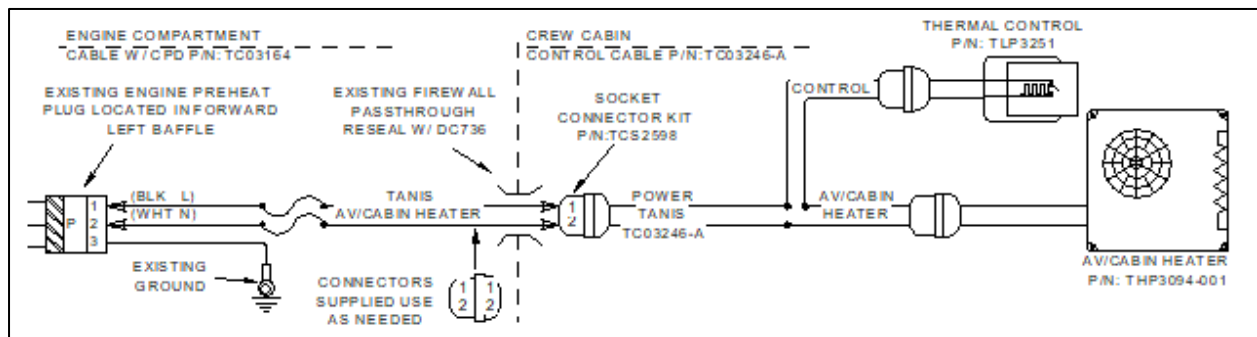

Figure 6.5. Heater circuit diagram.
Heater cable supplied in two parts: Cable Kit, w/ circuit protection device (CPD) p/n: TC03164 and Control Cable Assembly p/n: TC03246-A. Three Cable-tie Anchor's p/n: TU02782 and Adhesive Mix Kit p/n: CB92 are supplied for use as needed. For heater circuit diagram and cable routing refer to Figures 6.5, 6.6 and 6.7.
- b) Route lead aft w/ existing wiring to engine firewall. Using cable-ties and/or clamps secure CPD and cable along the way. Compensate for engine movement w/ service loop/slack between engine and mount. Note: Cable Kit supplied w/ connectors that may be used at the installers discretion for engine disconnect, refer to Figures 6.5 and 6.6.